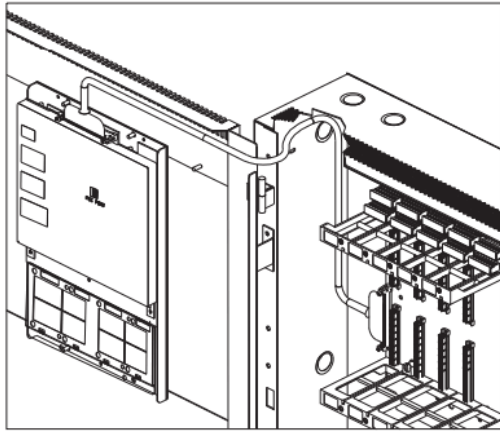

Figure 5
A 40 inch long 60 wire cable, P/N 555-133743, connects the FCM2041-U3 to the CC-5. The CC-5 is located in the back of the enclosure on the left hand side. Connect one end of the cable to J2 on the FCM2041-U3. J2 is marked with "CC-5" on the FCM2041-U3 printed circuit board. Connect the other end of the cable to P1 on the CC-5. (Refer to Figure 5.)
- d) Re-attach the 60-pin cable to the connector at the top of the FCM2041U3 (see Figures 5 and 6) as well as any other original connections to the PMI.